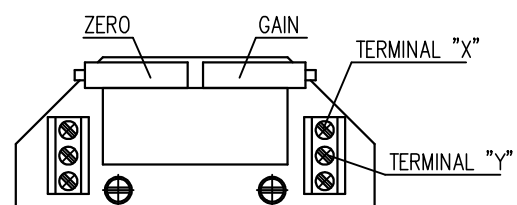

Fig.6
##### 4.4.2 EPV – 3-wire version (Fig. 6)
- Adjust the resistive transmitter according to the previous chapter. The resistance is to be metered on the terminals X-Y (Fig. 6). The used transmitter resistance is 2000W or 100 W.
- Turn the adjusting trimmer ZERO (Fig. 6) to adjust the output current signal rate measured on the terminals 81-82 to 0 mA or 4mA.
- Turn the adjusting trimmer GAIN (Fig. 6) to adjust the output current signal rate measured on the terminals 81-82 to 20mA or 5 mA..